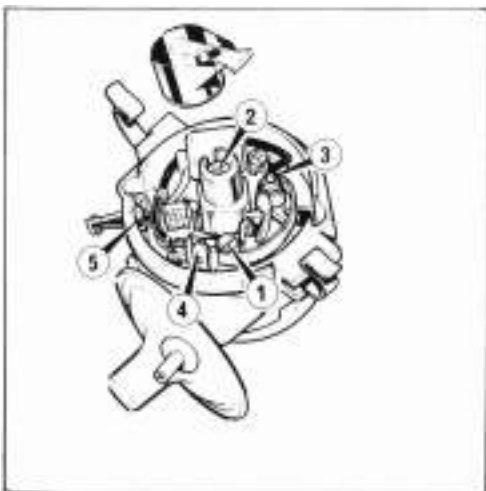

Figure 46 Distributor - general view
- 3 Slacken the slotted headed screw (**Figure 46**) in the contact plate and adjust until the gap is 0.38 mm (0.015 inch) . The gap is measured with a suitable feeler gauge and pressure should be applied to the points, with the feeler gauge inserted between them, whilst the screw is being tightened .